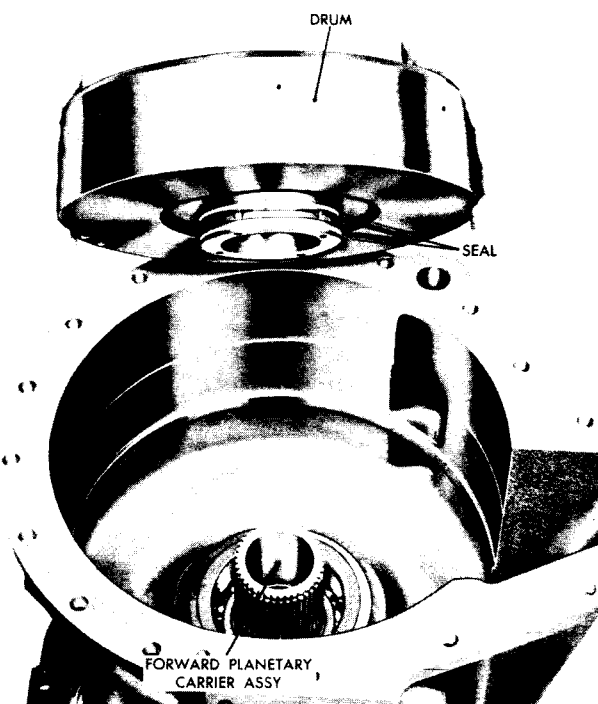

Fig. V-22. Removing (or installing) intermediate-range clutch drum assembly
(5) Remove the intermediate-range clutch drum assembly (fig. V-22). Refer to sect. VI, para 24 for rebuild of the clutch drum assembly.